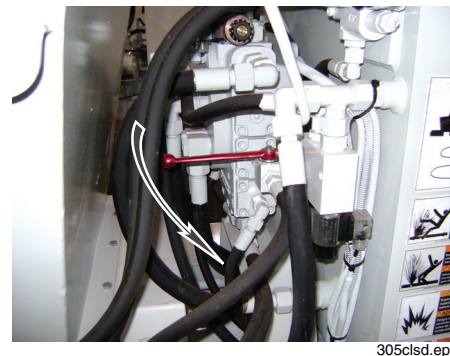

Figure 46
2. Close the shut-off valve (also known as the ball cock and quarter turn valve Figure 46).